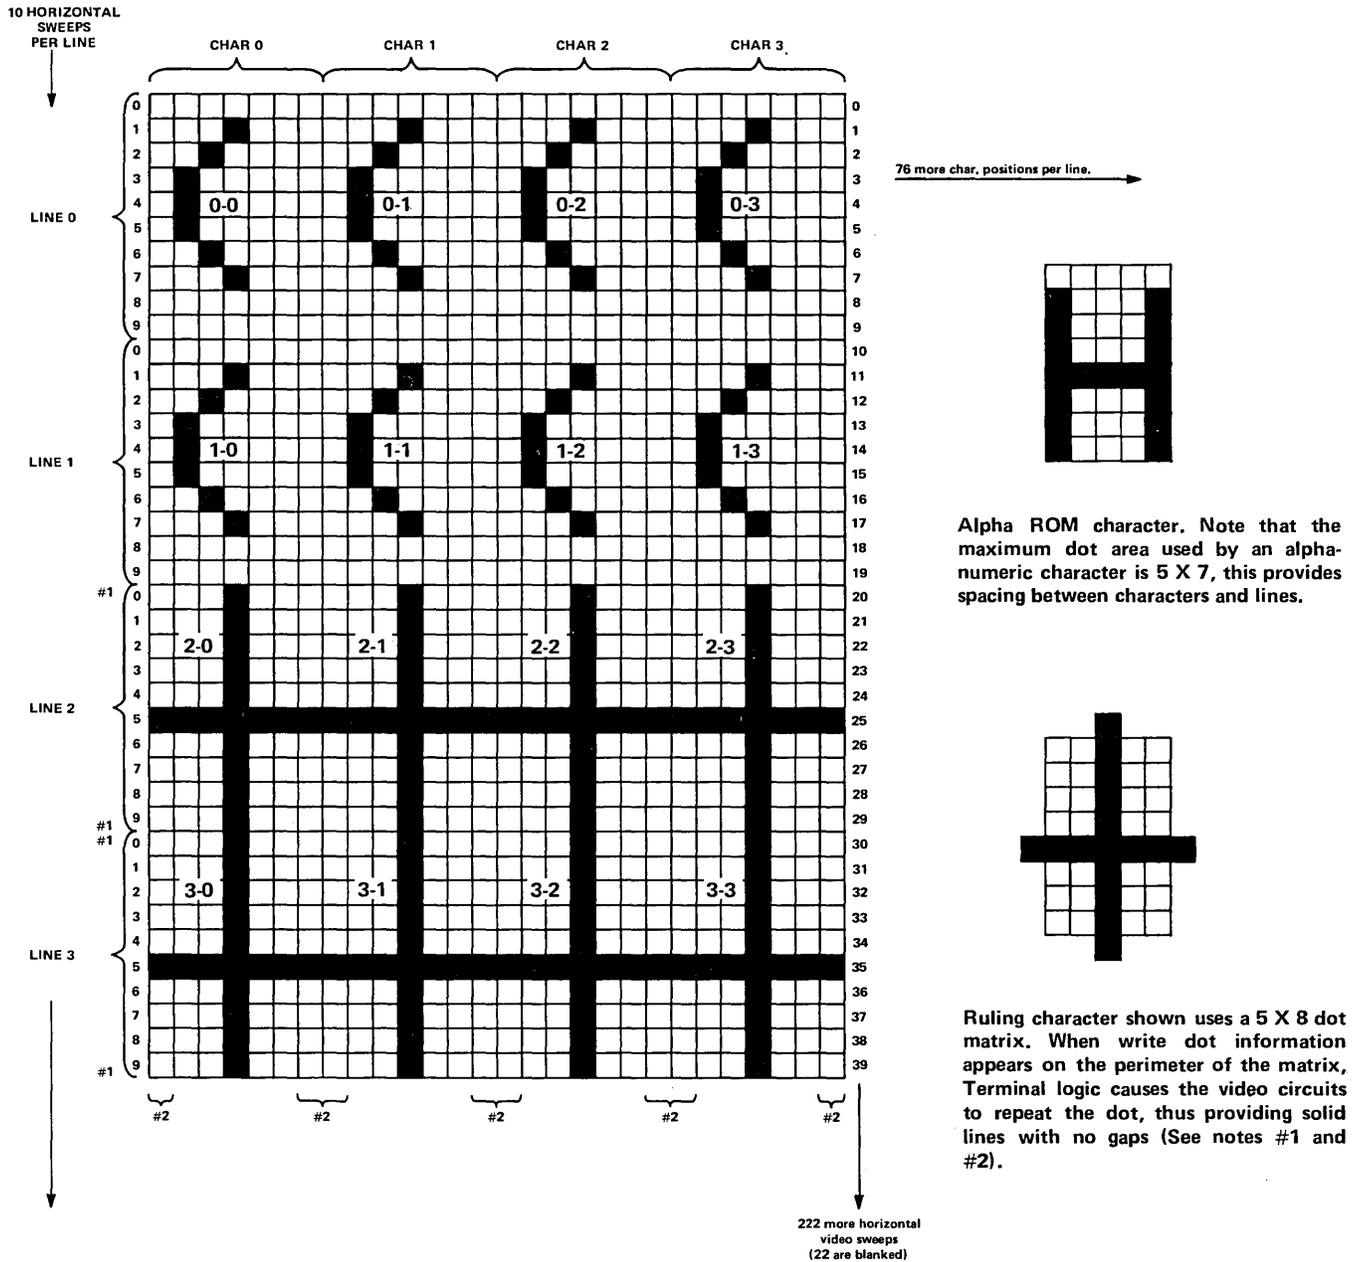
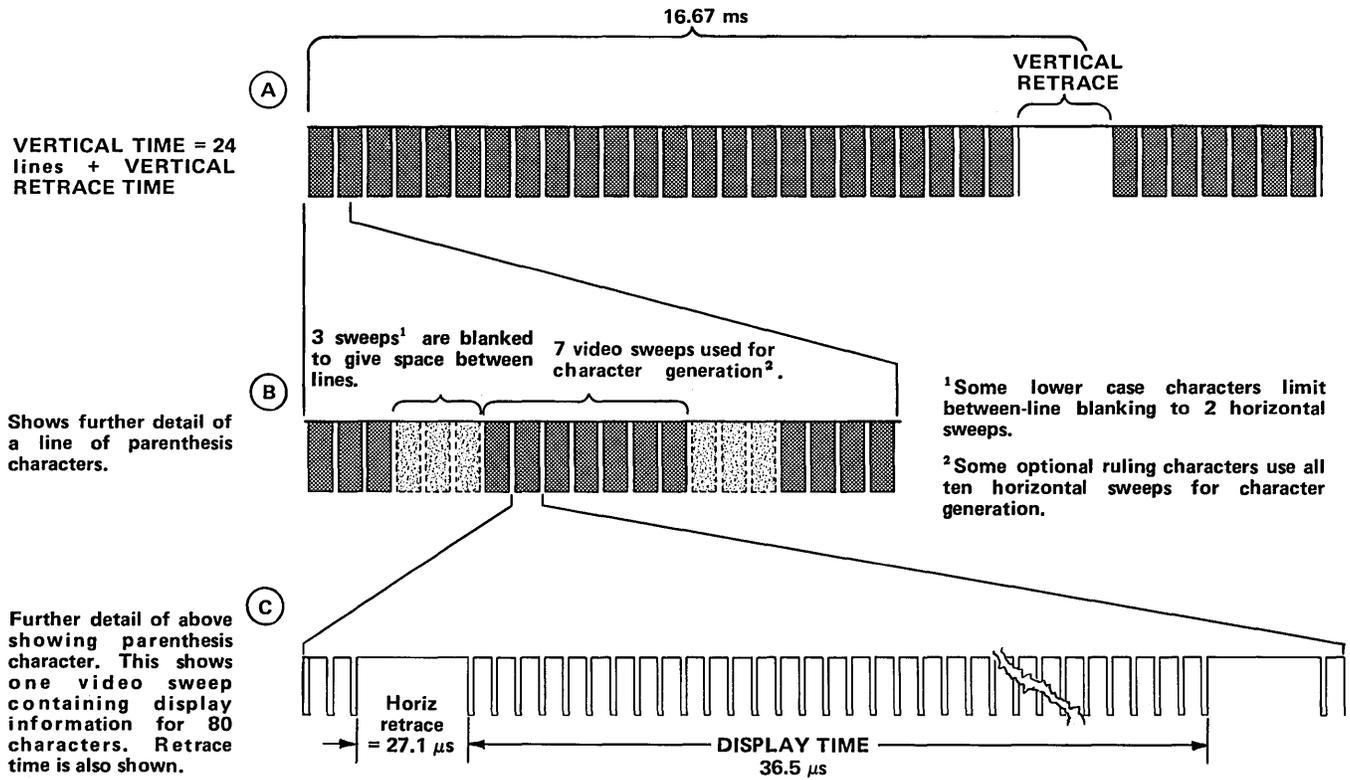

Fig. 6-3. Partial Display illustration showing character generation in relation to horizontal sweep.
Fig. 6-4. TTL composite video signal.
**GENERAL.** The circuitry in the upper portion of the schematic contains the Character Generator and video control circuits. Timing requirements are supplied by the timing circuits. Figure 6-3 shows a partial display illustration; Fig. 6-4 shows the TTL Video Logic Signal that generates the video shown on the display illustration. The following describes the relationship each component of the
TTL Video Logic Signal has to the information displayed in Fig. 6-3.
**TTL VIDEO SIGNAL DESCRIPTION.** First review the display illustration, Fig. 6-3, then review Fig. 6-4.
Part A-D of Fig. 6-4 is the TTL Video Logic Signal before conversion to its analog counterpart. Oscilloscope sweep speed is 2 ms/div. Note that 24 separate groups are visible. Each group is representative of one line of characters. The small spacing between groups is representative of the 3 horizontal lines on which no data appears when generating standard characters. Some lower case characters (g, j, p, q, and y) are one sweep lower, thus allowing only 2 horizontal sweeps to separate them from the next line of characters. The vertical time (field time) is 16.67 ms and includes vertical retrace time.
Increasing the sweep speed to 50 μs/div shows more detail. Part B of Fig. 6-4 shows that each character line of "(" characters is composed of video information on 7 horizontal sweeps, with 3 sweeps for between-line spacing. Some optional ruling characters use all ten horizontal sweeps for character generation.
Part C of Fig. 6-4 shows the signal at a sweep speed of 5 μs/div. This shows one sweep that contains 80 negative-going spikes. These spikes command the writing beam to "turn-on" at the respective "dot position" to write the dot. Note the horizontal retrace time of 27 μs.